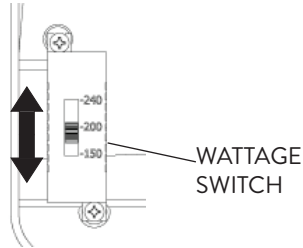
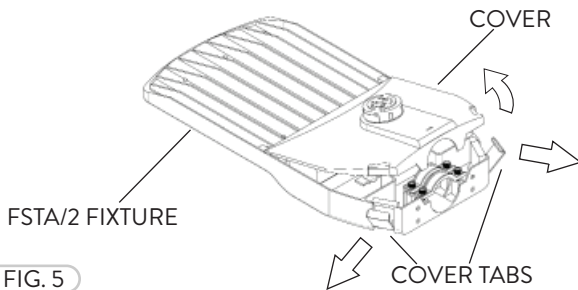

FIG. 3
FIG. 5
Open the Cover to adjust the Wattage with the Wattage Switch inside of the FSTA/2 fixture (Refer to Fig. 5). The FSTA/2-L can be adjusted to 40/50/60W, the FSTA/2-M to 60/75/90W, FSTA/2-H to 80/100/120W and the FSTA/2-X to 150/200/240W (Fig. 3).
- 1 The FSTA/2 fixture can be mounted easily to most standard Roadway Upsweep Arms. Pull both Cover Tabs outwards to release from the Cover to open the Cover of the fixture (Fig 5).